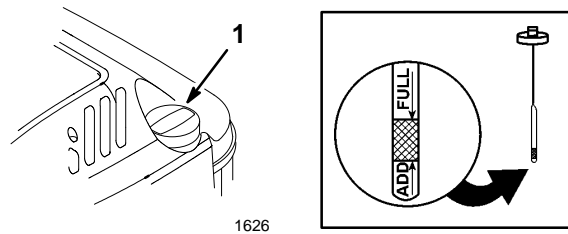

Figure 3
Before each use, ensure that the oil level is between the FULL and ADD marks on the dipstick (Fig. 3). Add oil if the level is low.
1. Position the mower on a level surface and clean around the dipstick (Fig. 3).
5. Remove the dipstick and check the level of the oil on the side of the dipstick with the FULL and ADD marks (Fig. 3).